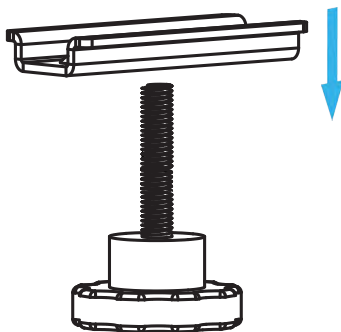

Figure 6
4. Insert the **Clamping Plate** back onto the **Hand Knob**. (Figure 6)